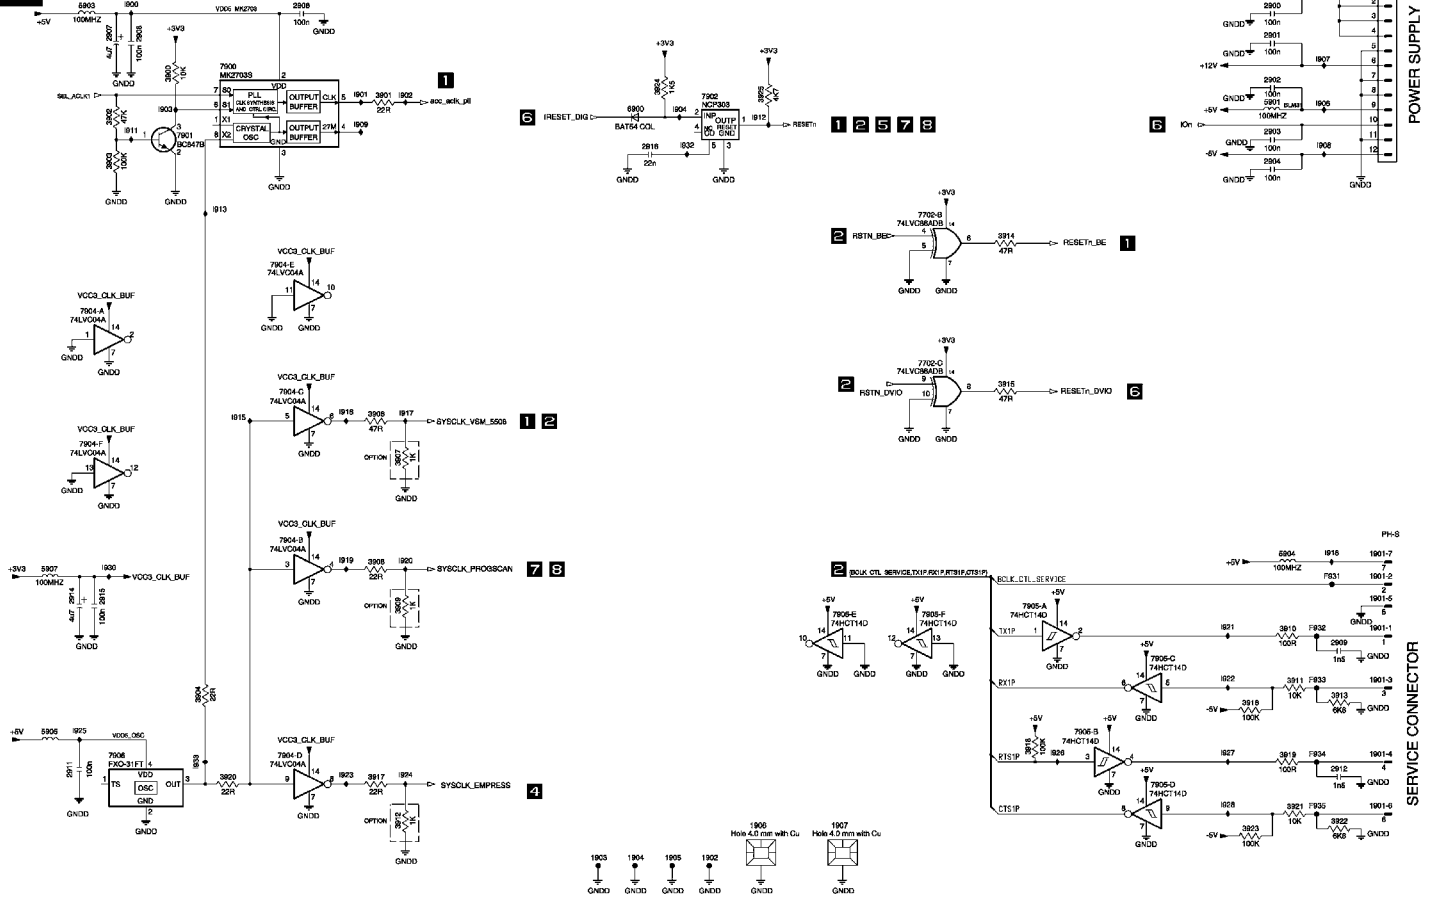

Figure 34 - Power Clock and Reset of the Digital Signal Processor
The Digital Signal Processor has many responsibilities. Refer to **Figure 34**. It is responsible for encoding Digital Video and Audio into MPEG2 and AC3 respectively. It supplies MPEG2 and AC3 to the Basic Engine (BE) for recording. It also receives the MPEG2 Video from the BE, decodes the signal, and supplies Digital Video to the Progressive Scan circuit. It supplies Analog Video to the Analog Board, and Digital Audio (I²S) to the Analog Board. The entire operation starts with the B+ supplies and the System Clocks.